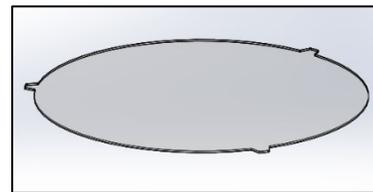

FIG.3 DIFFUSER
2. DIFFUSER. (as shown in FIG.3)